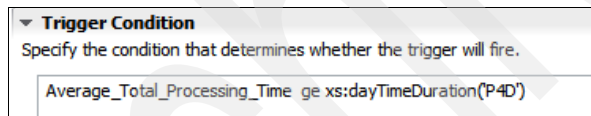

Figure 7-111 Trigger Condition
4. Under Trigger condition (Figure 7-111), type `Average_Total_Processing_Time ge xs:dayTimeDuration('P4D')`.